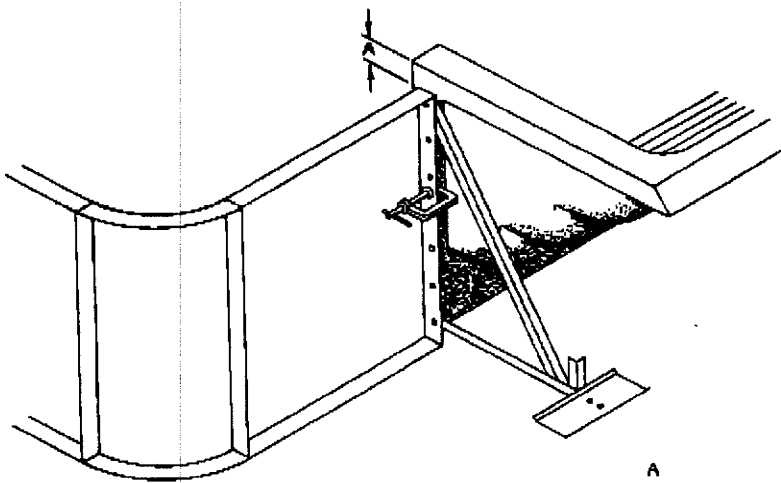

FIGURE 2. -- Wall/Step Unit Assembly
3. Position the Step Unit, with Sealing Strips attached as received, into the wall opening and temporarily secure the step flanges to the wall flanges with large vise-grips or C-clamps, per Fig. 2.
4. Working one side at a time adjust the relative positions of the step flange and wall flange such that the vertical dimensions "A", Fig. 2 & 3, is equal or slightly greater than the maximum height of the coping to be used and such that the pool side of the wall is flush with the top of the vertical sealing flanges, Fig. 3.
6. Level the pool wall/step/pool wall assembly the same as a normal run of wall, using A-frames per Fig. 2, and complete pool bottom and trench bottom concrete work in the normal way per Fig. 3. Additional support under the top step, using concrete block (or adjustable step support as per Fig. 3*) on footings with grout against the understep surface will provide the most stable installation. (See Winterizing note. 3.)